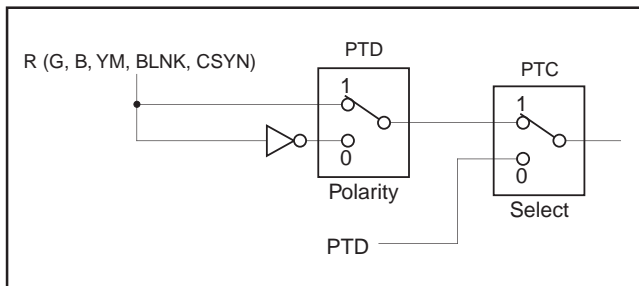

Fig. 2 Switching port output with R, G and B output
**Note:** At EX (address 2B016) = "0" (external synchronous), setting "1" of ALL24 register is not available. Refer Fig. 2 about PTC0 to 5, PTD0 to 5.